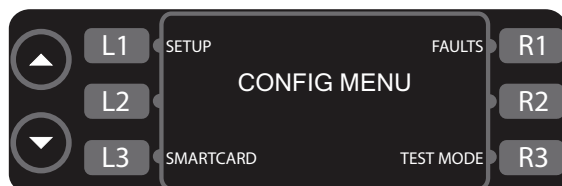
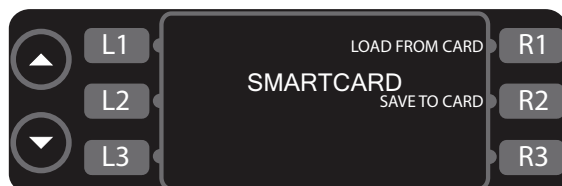
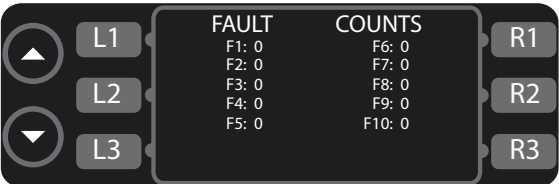

Figure 12: Config Mode
Figure 13: Smart Card Screen
Figure 16: Fault Counts Screen
The CONFIG MODE (Figure 12) serves four main purposes:
1. Press L3 (Figure 12) to access the smart card screen (Figure 13).
- Press R1 to load a menu from the smart card to the oven (Figure 13).
- Press R2 to save a menu from the oven to the smart card (Figure 13).
From the CONFIG MODE (Figure 12), press R1 to access the fault counts screen (Figure 16, page 16). The oven will display the number of faults that have occurred.
From the CONFIG MODE (Figure 12), press L1 to access the SETUP MODE. The SETUP MODE allows the user to customize several oven settings - see below for more details.
2. Press the R3 soft key (Figure 12, page 15).